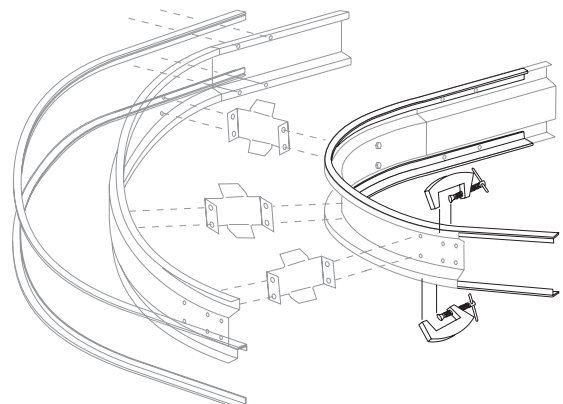

Figure 7
3. When the wearstrip is completely bottomed out against the side frame, use a clamping device to hold it in position. Refer to *Figure 7*.